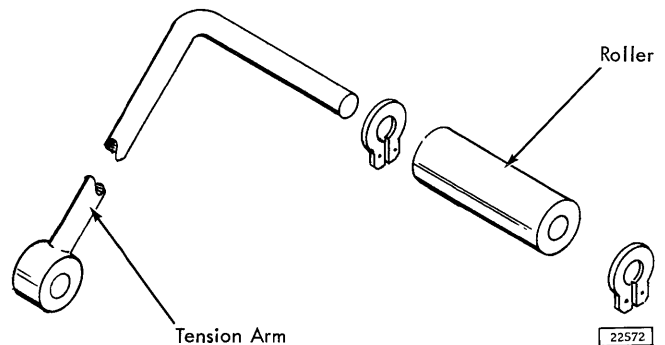

Figure 3-1. Exploded View, Tension Arm Assembly
2. Be sure that the tape tension arm (Figure 3-1) is adjusted to 1 1/8 ± 1/8 inch above the bottom edge of the panel, in an "at rest" position.